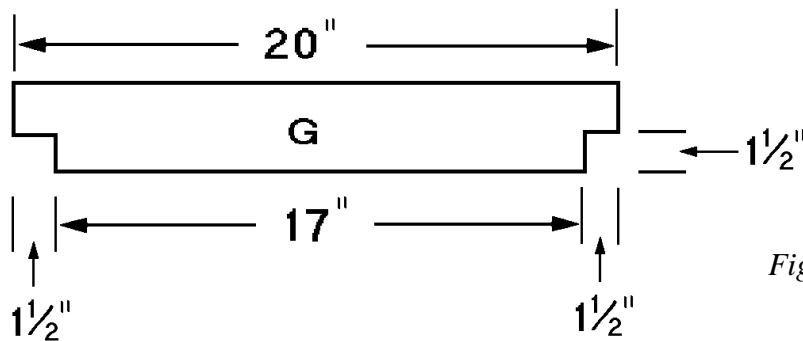

Figure 4
- Each shelf is composed of five 1 x 4 pine slats that are held in place by the shelf supports (F).
- Cut five shelf slats (G) from 1 x 4 pine each 20 inches long.
- The two outermost slats of the shelf must be notched to accommodate the legs. Using the cutting diagram shown in *Figure 4* as a guide notch two of the five shelf slats (G).